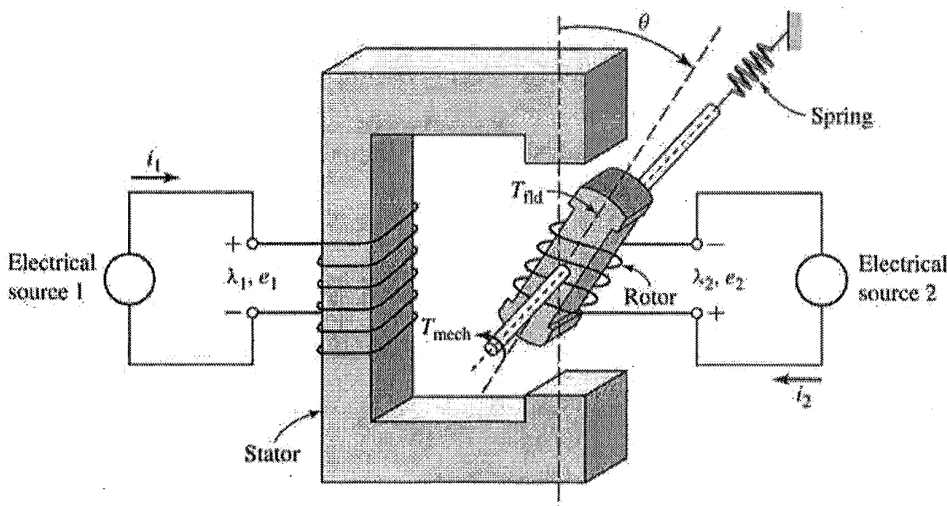

Fig.3
4. In an electromagnetic-energy-conversion-device shown in fig.3, if one winding is mounted on a stationary member of iron and another winding is mounted on the movable member of iron then draw this figure showing the flux and obtain the expression for electromagnetic torque in this doubly excited rotational electromechanical energy converter. Assume the necessary parameters for the system concerned. Also derive expressions for the speed and the transformer emfs. **16**